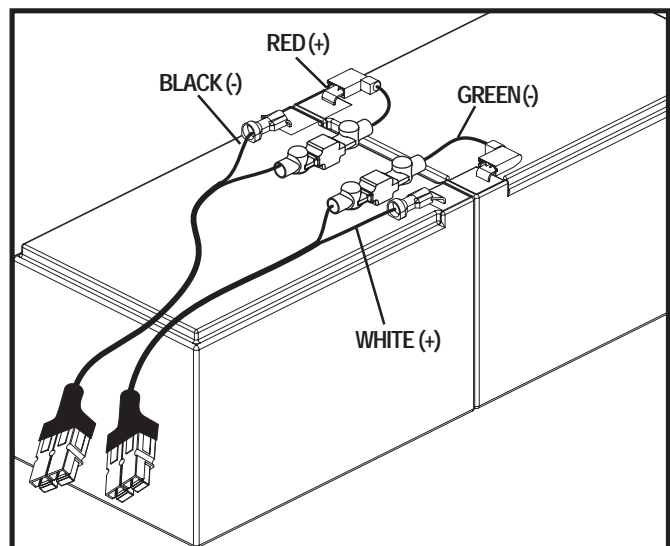

Figure 14. Battery Harnesses and Battery Cables
3. Reconnect the battery cables to the battery terminals of each new battery. **See figures 14 and 15.**